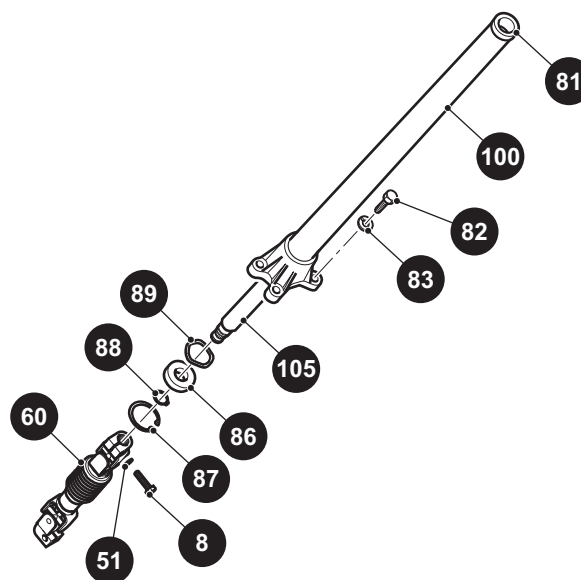
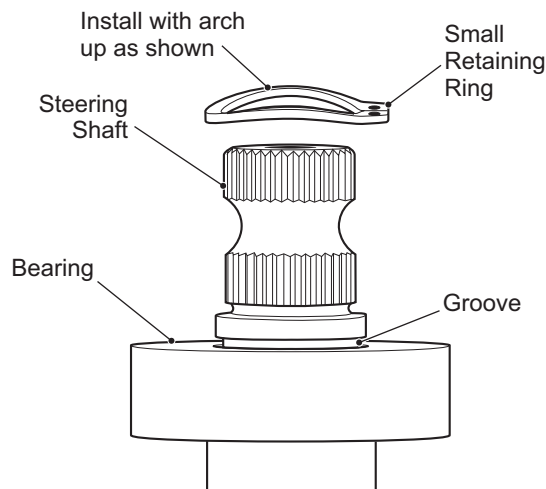

Figure 22 Steering Shaft and Column
Figure 23 Small Retaining Ring Orientation
4. Remove the bolt (8) and washer (51) securing the intermediate shaft (60) to the steering shaft (105).
5. Remove the four bolts (82) and washers (83) that secure the steering column (100) to the chassis and remove the column.
6. Remove the large retaining ring (87) on the bottom end of the column and pull the shaft (105) and bearing (86) out as an assembly.
7. Slide the wave washer (89) out the bottom end of the steering column (100) and retain for reuse during assembly.
8. Remove the small retaining ring (88) and press the bearing from the steering shaft.
10. With the small retaining ring oriented with the arch up, slide the ring onto the shaft as far as possible using snap ring pliers (Ref. Figure 23).
13. Apply wheel bearing grease to the lip of the seal in the bushing (81) at the top of the column and press the steering shaft and bearing assembly into the column base.
14. Secure with the large retaining ring (87), making sure it is fully seated in the groove of the column.
15. Place the steering column on the vehicle and tighten the column bolts (82) to the torque values below.
16. Tighten the bolt (8) securing the intermediate shaft (60) to the steering shaft (105) to the torque values below (Ref. Figure 22).